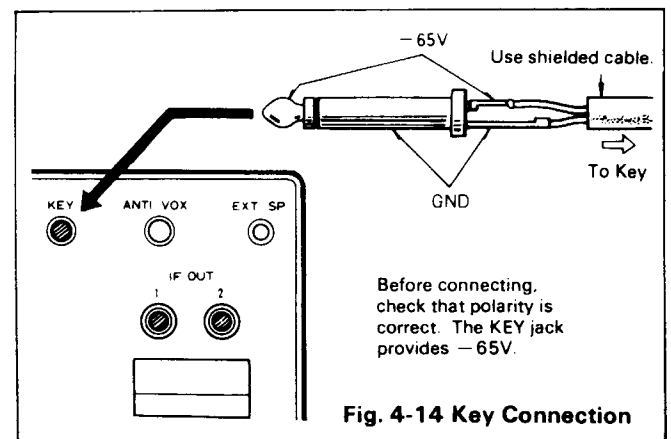

Fig. 4-14 Key Connection
■ KEY CONNECTION (Fig. 4.14)
Your key should be connected as illustrated in Fig. 4-14. When using an electronic keyer, make sure that polarity is correct. Use shielded line from the key to transceiver.